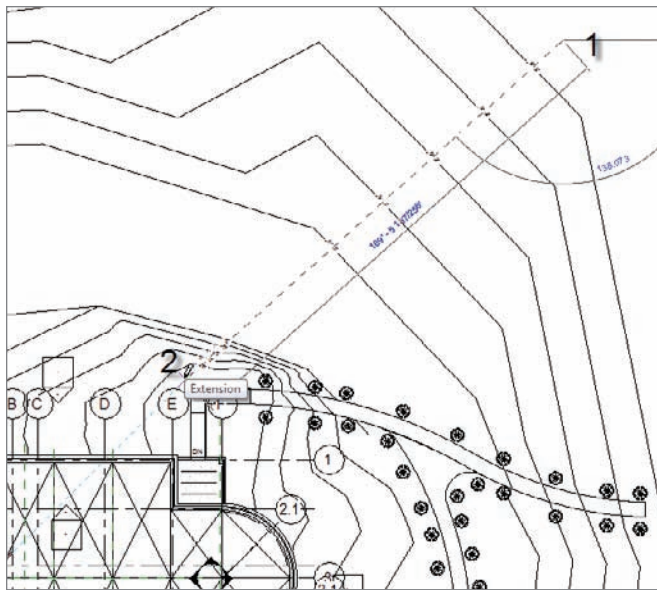

FIGURE 18.19 Adding the contour labels
2. Pick a point to the outside of the toposurface, labeled "1" in Figure 18.19.
3. Pick a second point near the building, labeled "2" in Figure 18.19. After you pick the second point, the contours are labeled.